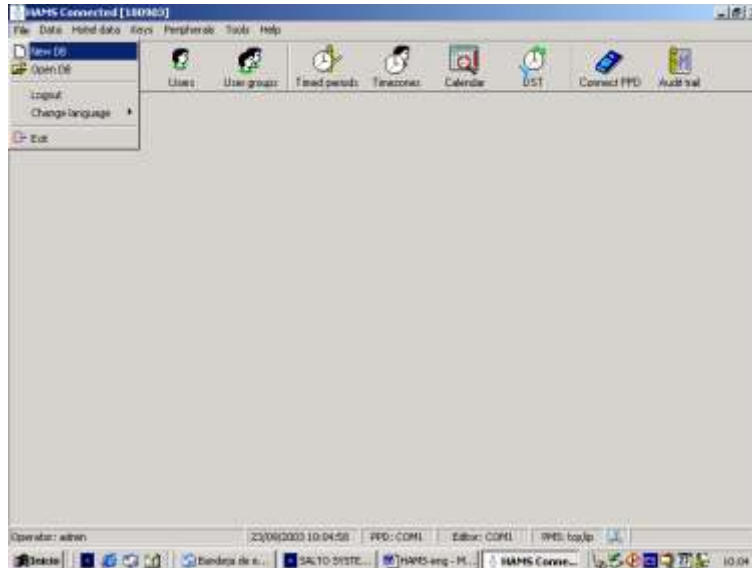

Figure 3
- Select *NEW DB. option* (Figure 3.)
- A window like that of Figure 3 will display.
(Fig. 3)